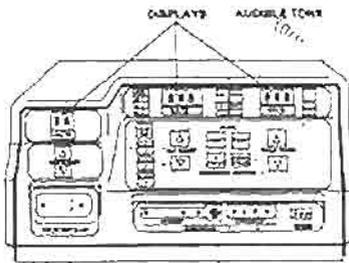
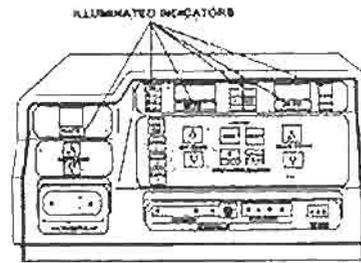

Figure 3-2. Self-test displays.
Figure 3-3. Self-test illuminated indicators.
- c. Observe the control panel. The following control panel actions will automatically occur (fig 3-2 and fig 3-3):